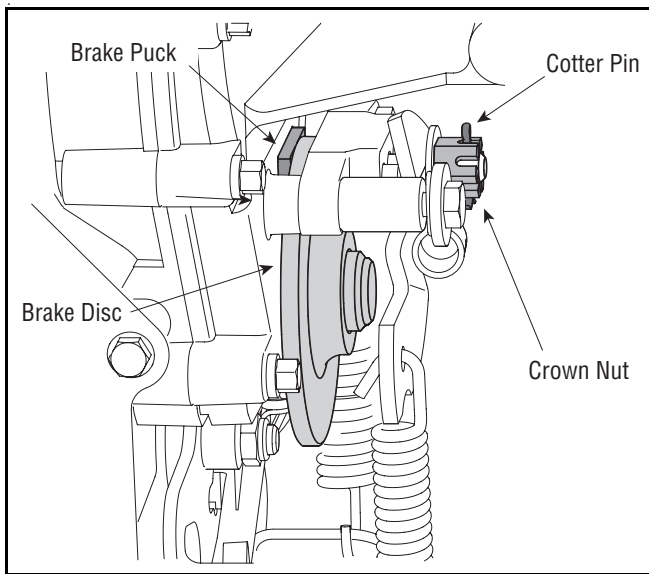

Figure 14
- Looking at the transmission from the right side of the tractor, locate the compression spring and brake disc. See Figure 14.